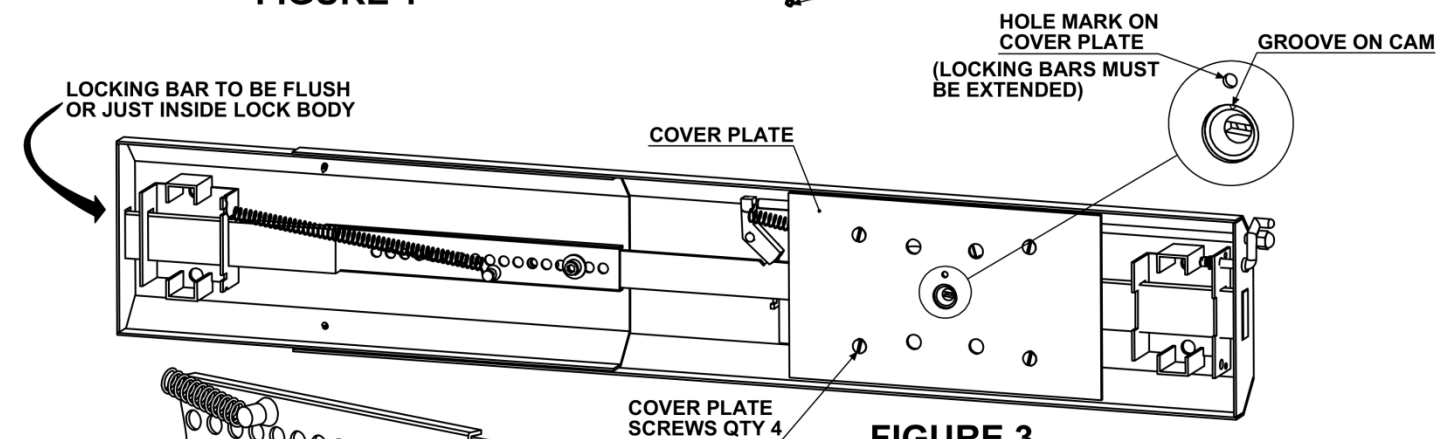

FIGURE 3
7. Remove locking screw from perforated locking bar & adjust locking bar in extension end of lock such that with the lock in the retracted position the locking bar is flush with (or just inside of) the end of the lock body. Refit screw in adjusted position & tighten. (Fig. 3)
8. Ensure the lever handle operates in a downward motion to retract locking bars. If it does not the 'hand' of the lock needs to be changed. If this is required remove four screws from cover plate on the back of the Lock. Remove nuts & screws that secure the lever handle & rotate 180 degrees. Re-fit four screws & nuts for lever handle & re-install cover plate & screws. Lever handle should now operate in a downward motion. (Fig. 3 & 4)
15. This step only applies for locks supplied with external key access. Key must be in neutral position i.e. removable. Check that the groove on the cam aligns with marking on Backing Plate when Locking Bars are extended. (Fig. 3)